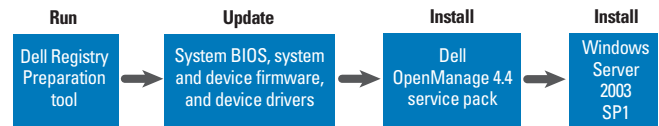

Figure 1. Recommended installation process on servers running Dell OpenManage 4.3
- **Dell OpenManage 4.3:** Administrators should run the regprep tool;5 update the system BIOS, system and device firmware, and device drivers; install the Dell OpenManage service pack for version 4.4 (which will be available at [support.dell.com](http://support.dell.com)); and then install SP1 (see Figure 1).